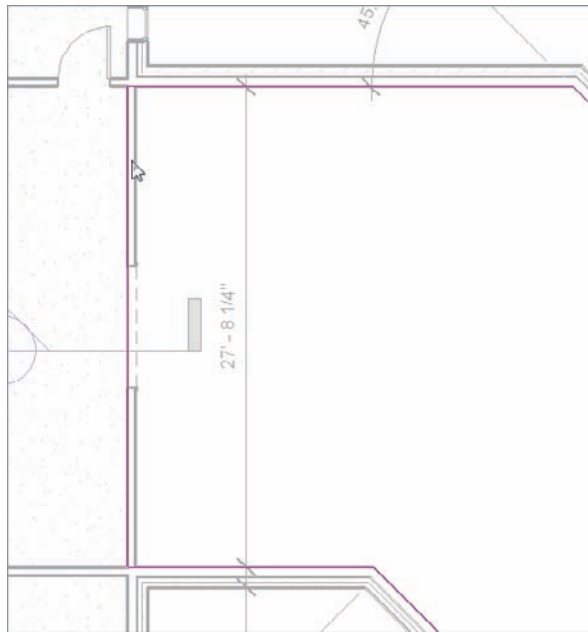

FIGURE 6.15 Adding the slab edge to the left side of the west corridor wall
9. Pick the west wall of the corridor. This time you want to be sure that the magenta line is to the left of the wall. This will ensure that the two slabs meet. If not, you may need to move the line manually (see Figure 6.15).